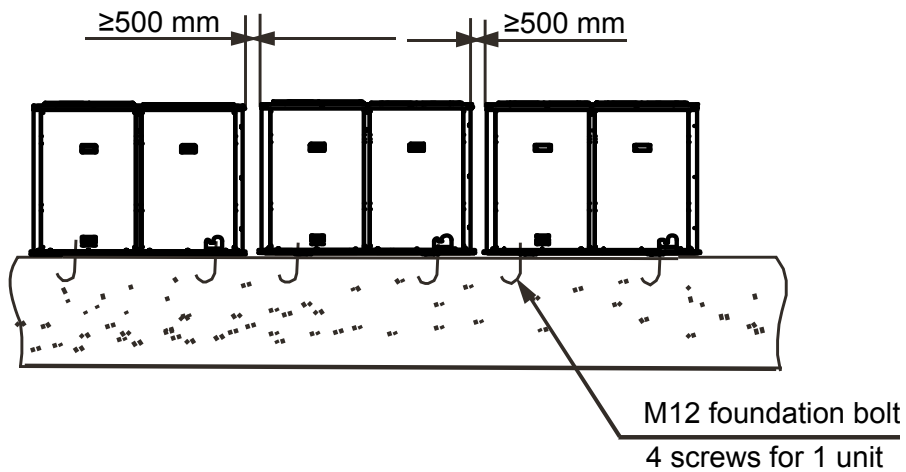

Fig 2-5
- 3.3 As shown in Fig 2-5, leave an interval of 500mm between the outdoor units.